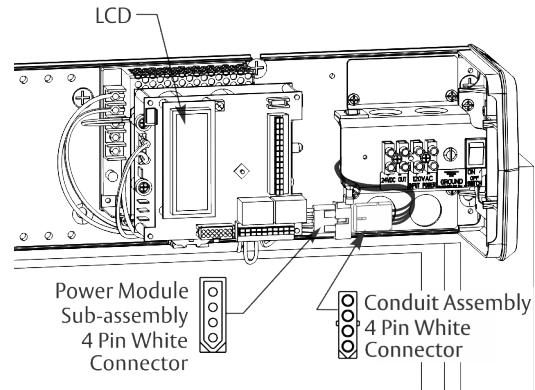

Figure 14
- Using three (3) #8-32 x 5/16" Phillips screws, secure power module sub-assembly to backplate at location marked on backplate.
**NOTE:** Orient assembly so LCD screen on inverter is toward closer assembly. (Figure 14)
- Attach 4-pin white rectangular connectors between power module sub-assembly and conduit assembly. (Figure 14)